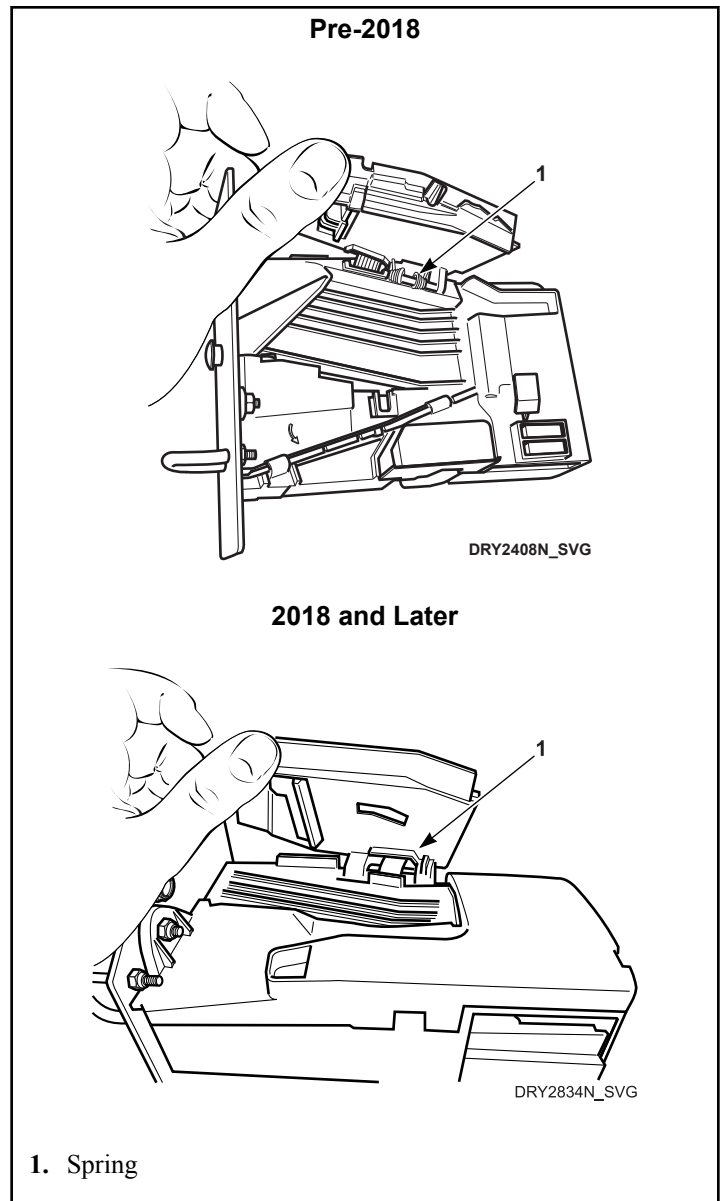

Figure 21
3. Open cover of coin drop. Refer to *Figure 21*.